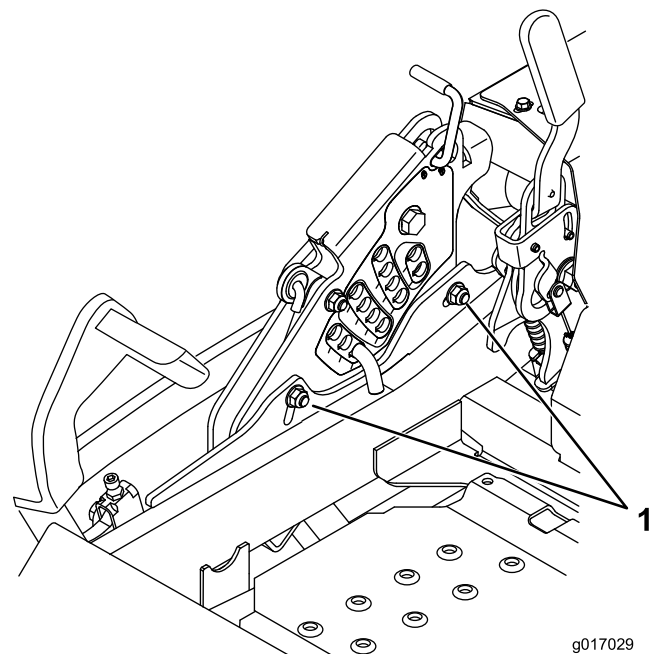

Figure 96
12. To adjust the single point system, loosen the two bolts at the bottom of the height of cut plate. Refer to Figure 96.
14. Tighten the two bolts at the bottom of the height of cut plate (Figure 96). Torque to 27-33 ft-lb (37-45 N-m).